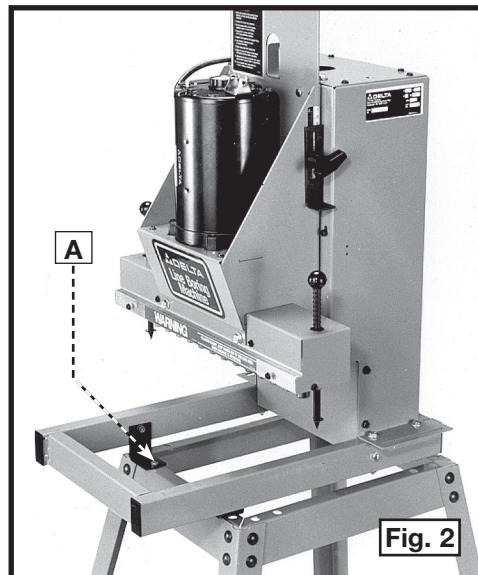

Fig. 2
Place the machine on the stand, using Fig. 2 as a guide. Align the four holes of the machine with the four holes on the stand. Insert the 3/4" (19 mm) hex head screw through the top of the machine and stand. Place a 5/16" flat washer on the 3/4" (19 mm) hex head screw (A) Fig. 2, followed by a 5/16" Lockwasher. Thread a 5/16-18 nut on the hex head screw and tighten securely. Repeat this process for the three remaining holes.